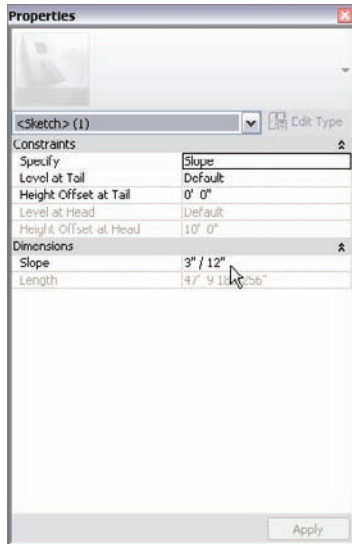

FIGURE 7.42 Changing the Slope Arrow properties
6. Under Dimensions, change Slope to 3" / 12" (250/1000mm), as shown in Figure 7.42.